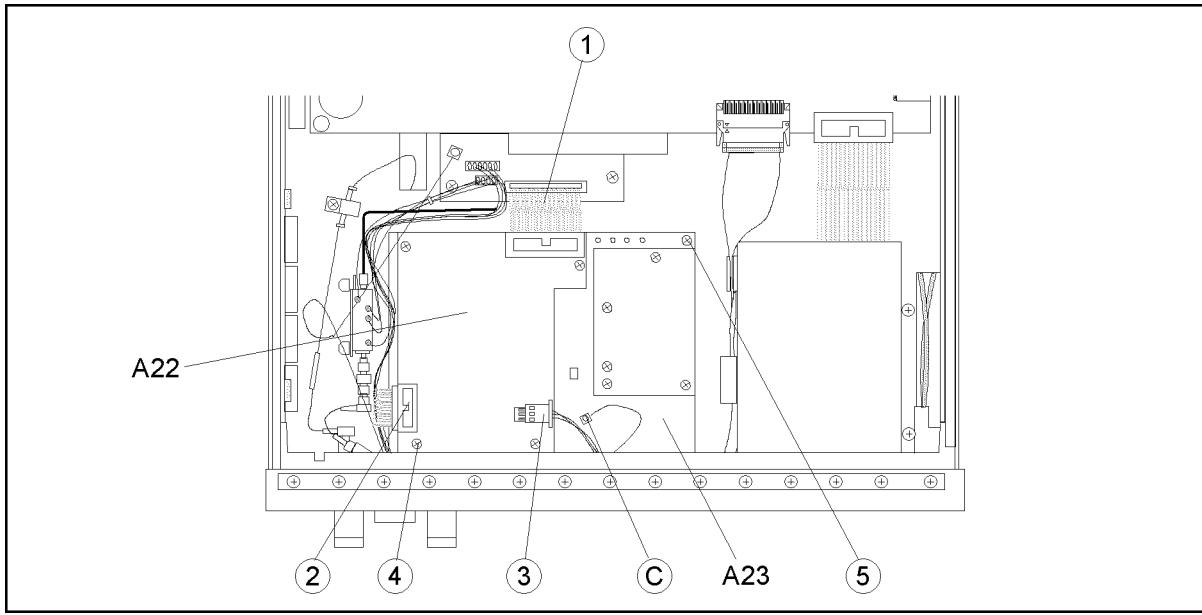

Figure 13-7. A22/A23 DC Bias Replacement
2. Disconnect the flat cables and wire designated ①, ②, and ③ in Figure 13-7.
3. Loosen the four screws designated ④ in Figure 13-7 to remove A22 from A23.
5. Remove the five screws designated ⑤ in Figure 13-7 to remove A23 from the chassis.